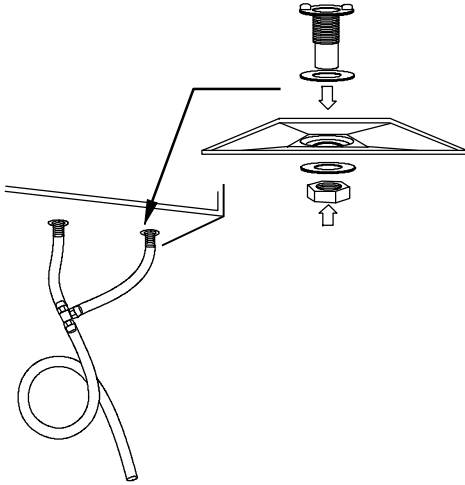

Fig. 9 - Condensate Drain With Loop Trap
1. Insert sleeved grommets into bottom of unit using the gasket washer and nut (see Fig. 9).
4. Make a loop in the tubing below the “T” connector to create a trap to prevent sewer gases from entering the ventilation system (see Fig. 9).